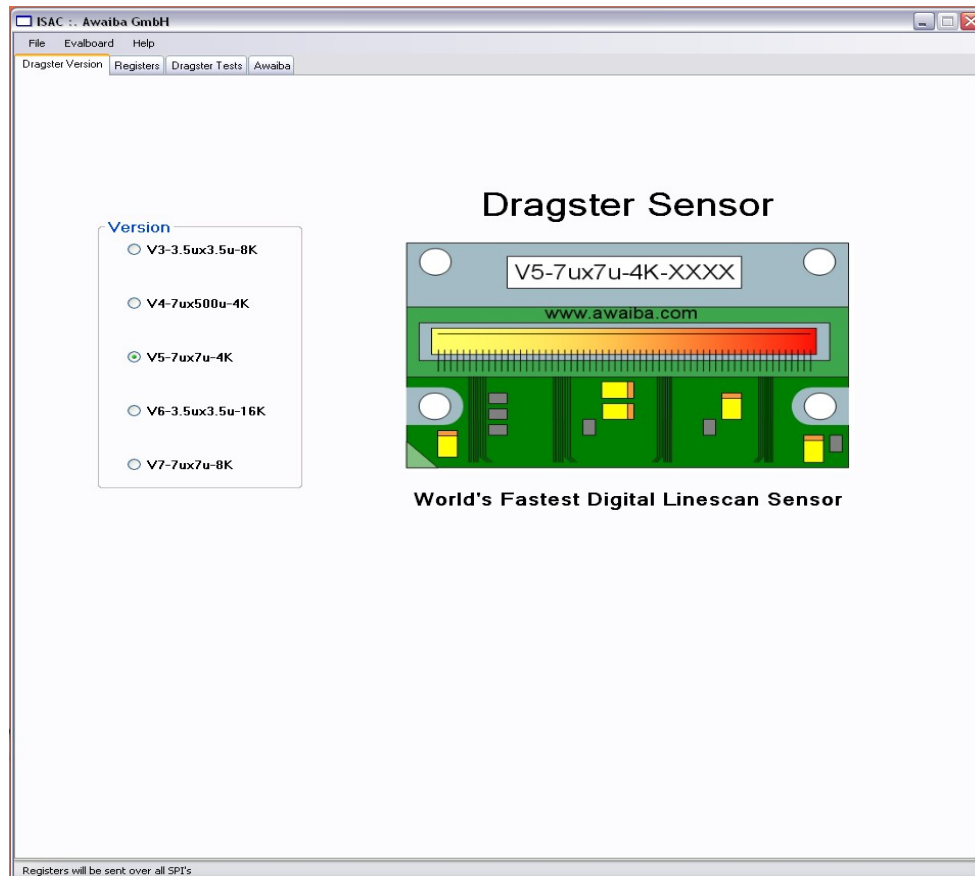

Figure 16: ISAC software
- Choose the sensor under test in the “Dragster Version” tab (figure 16)